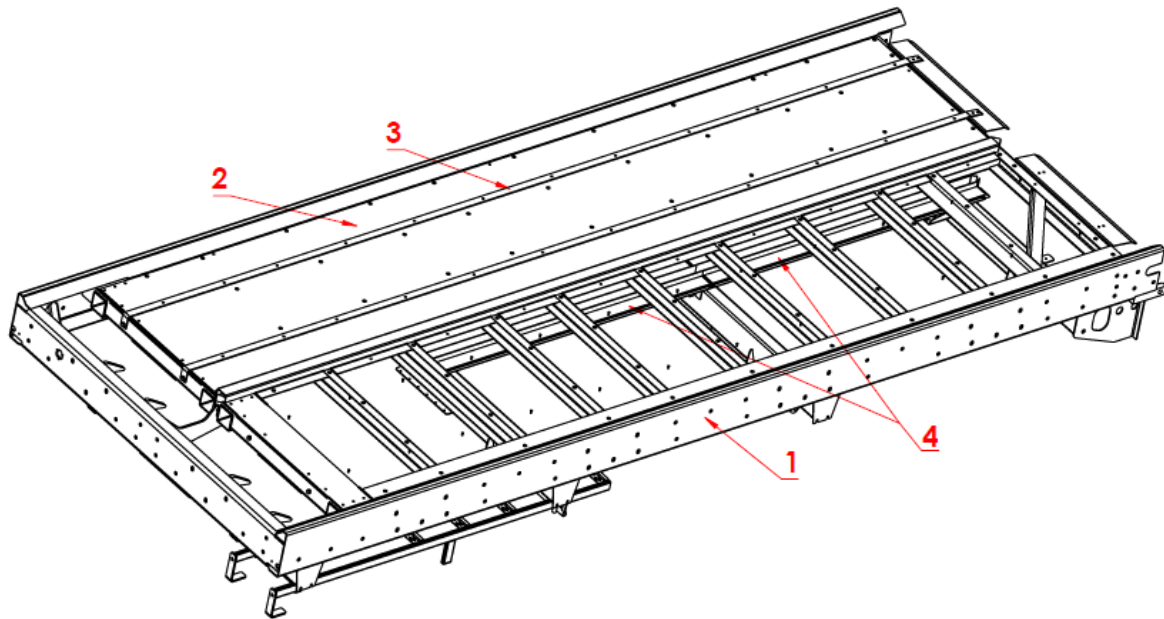
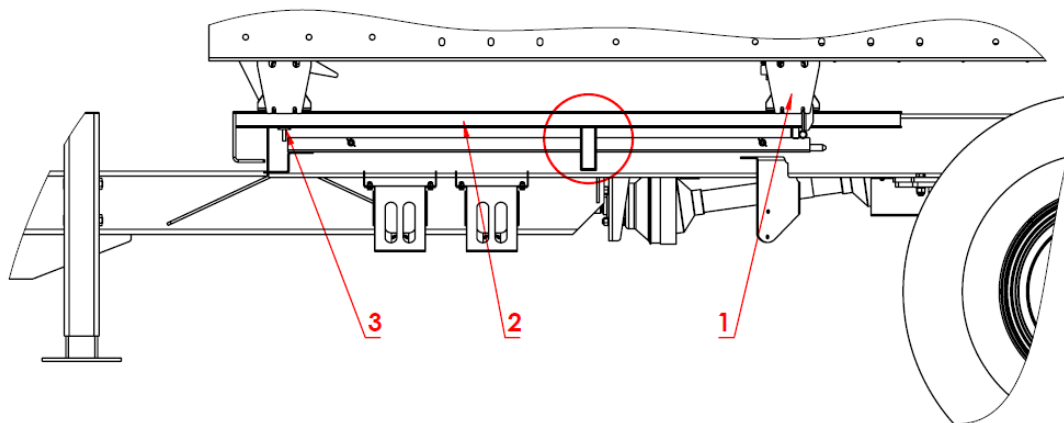

Figure 4.3. Upper frame of spreader
Figure 4.4. Ladder in transport position
The top frame (fig. 4.3, item 1), fastened to the bottom frame, consists of stringers and cross-bars. On the upper frame, a floor panel (2) of sheet metal having a thickness of 3mm is attached by means of screws and rivets as well as replaceable sliders (3) of the floor conveyor's strips. A profile preventing chains from diverging is found between floor panels. Exchangeable, fastened sliders (4) ensuring proper guiding of the chains are found under the frame, above the wheels. The wood applied in them reduces the noise generated as the chain slides over them. A ladder is fastened to the frame (fig. 4.4, item 2), which, after unfastening of the suspension (fig. 4.4, item 3), may be pulled out and hooked on the edge of the box for the purpose of inspecting its interior.
Make sure to fasten the ladder in the position shown in fig. 4.4. The marked bracket and other protruding parts should be oriented downwards (towards the ground)